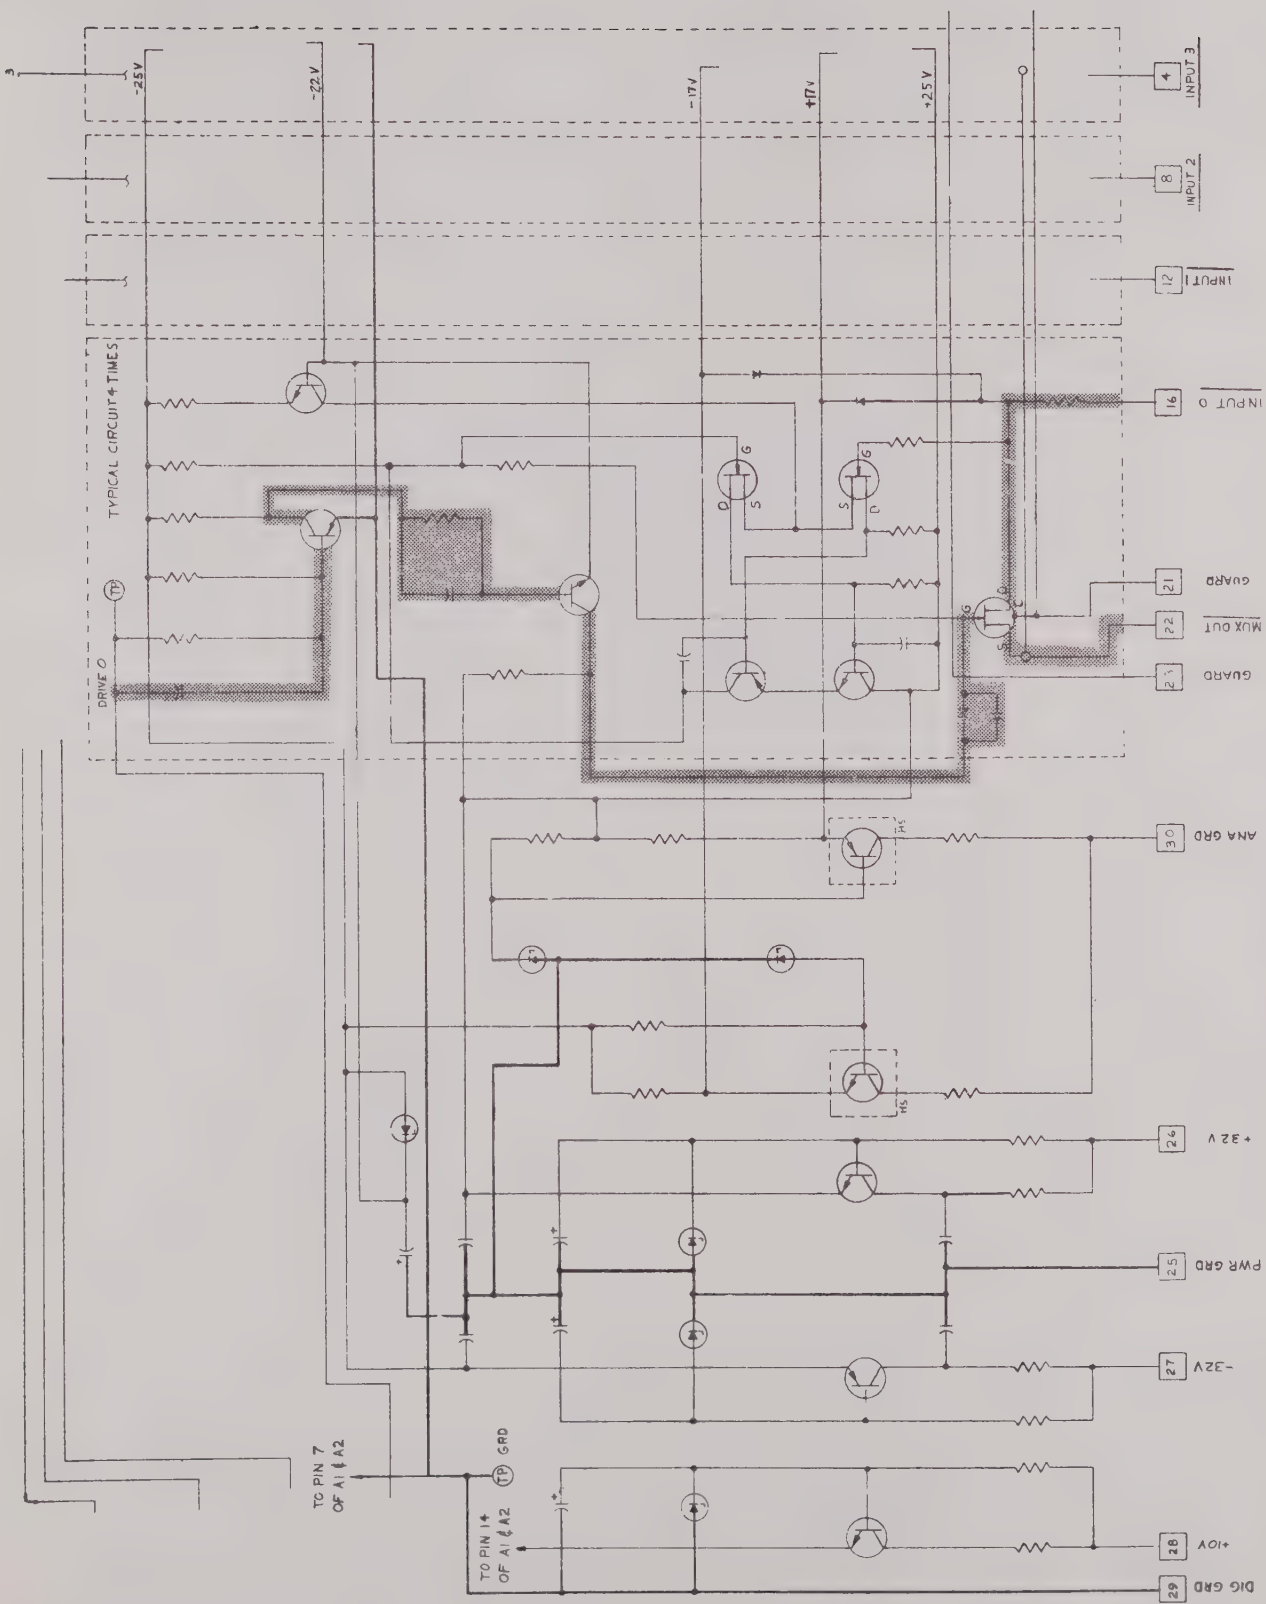

FIGURE 2.2
2.4 THEORY (Figure 2.2)
Figure 2.2 shows channel address circuit and a FET switch circuit.
Also shown in Figure 2.2, the analog channel input is connected to the Drain (D) and the multiplexer output is connected to the Source(S) of the FET. When the voltage between the Drain and the GATE (G) is Zero, the FET will conduct and the Source will be brought to the potential of the Drain.
The multiplexer switch is a FET (Field Effect Transistor). Figure 2.2 shows a schematic of the GMD Amplifier Multiplexer displaying the channel address circuit, amplifier, and the FET switch circuit. Because the FET has no inherent offset voltage, whatever signal appears on the input will also appear on the output (when the switch is ON). One characteristic of the FET used in the Model GMD is that the switch is normally ON with a ZERO gate voltage and is turned OFF by the application of a negative voltage of significant value applied to the gate.